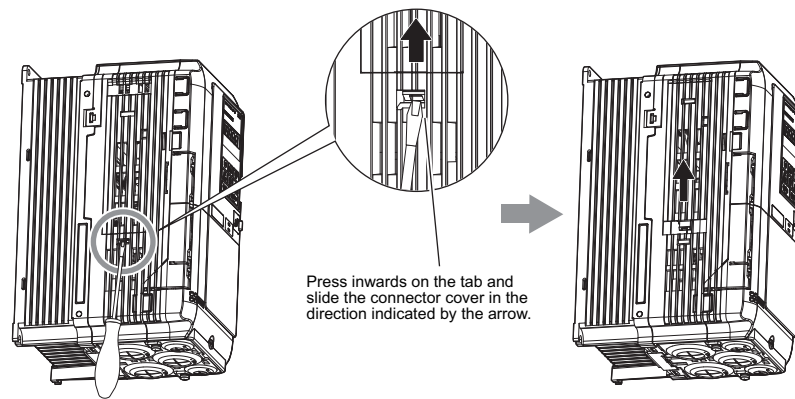

Figure 61 Removing the Connector Cover
1. Insert the tip of a screwdriver into the opening on the edge of the CN19 connector cover. Slide the cover off the drive as indicated in Figure 61.